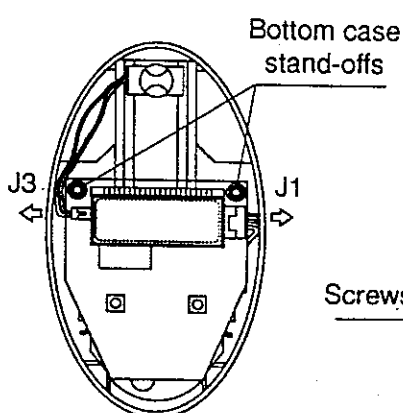

Fig. 3
- Step 1** See Fig. 3. Remove the top case, then remove connectors J1 and J3.